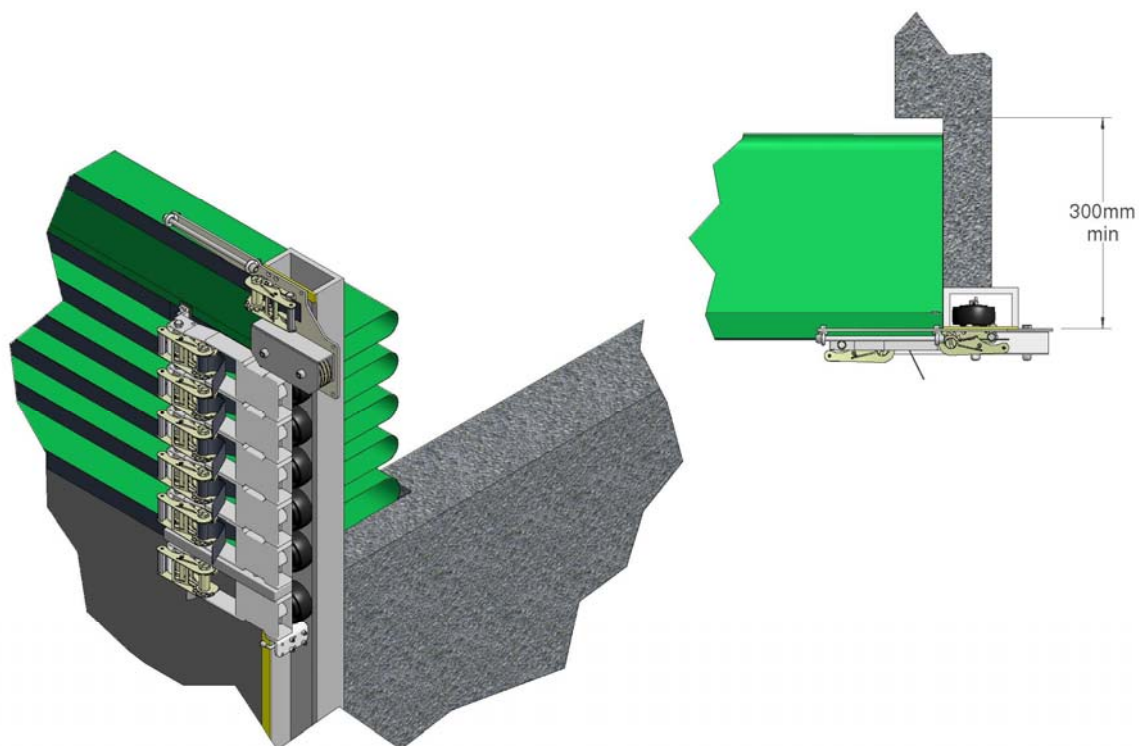

Figure 5
6. There must be a minimum of 300mm clearance either side of the tracking to provide sufficient space for the door panel to fold and to prevent damage by abrasion, see Figure 5. Check that there are no obstructions (gutters, downpipes, etc.) to hinder the operation of the door.